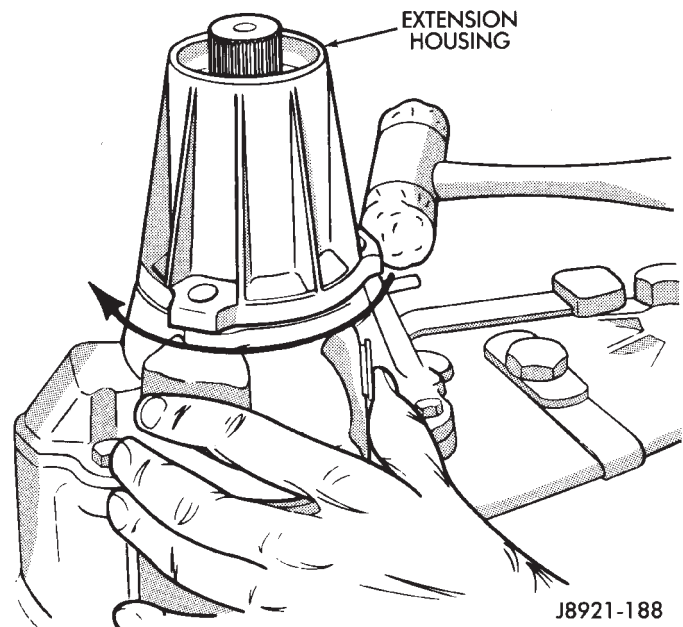

Fig. 1 Extension Housing Removal
- (1) Remove fill and drain plugs.
- (2) Remove front yoke. Discard yoke seal washer and nut.
- (3) Move range lever rearward to 4L position.
- (4) Remove extension housing attaching bolts.
- (5) Tap extension housing in a clockwise direction to break sealer bead and remove housing (Fig. 1).